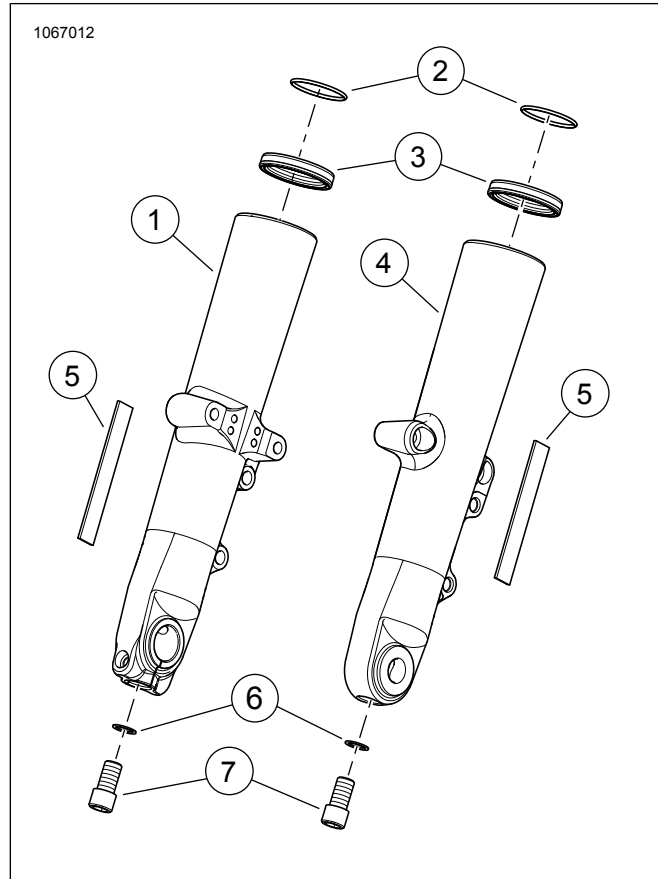

Figure 2. Service Parts: Chrome/Black Fork Sliders
See Figure 2 and Table 1.
- a. Replace the original fork sliders with the **new** chrome or black sliders (see Figure 2, items 1 and 4) from the kits.
- b. Replace the original slider oil seal on each side with a **new** slider oil seal (3) from the kit.
3. Install two **new** O-rings (2) on the fork tube plugs from the kit.
8. Peel the liner from **one side** of the double-sided foam tape (see Figure 2, item 5). Position the tape to the back of the reflector. Press firmly into place. Repeat for the remaining reflector.